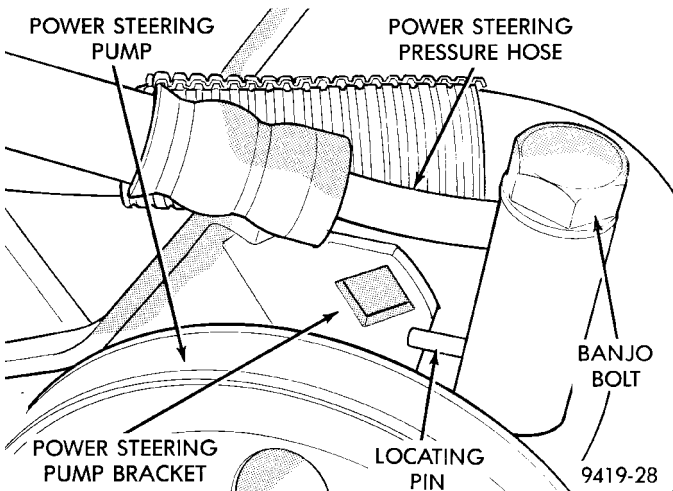

Fig. 4 Pressure Hose Attachment To Power Steering Pump
- (1) Remove the power steering fluid pressure hose from the power steering pump pressure fitting (Fig. 4).
(5) Position locating pin on power steering pressure hose banjo fitting so it is against power steering pump mounting bracket (Fig. 4). While holding locating pin against power steering pump bracket, torque banjo bolt to 34 N·m (25 ft. lbs.).